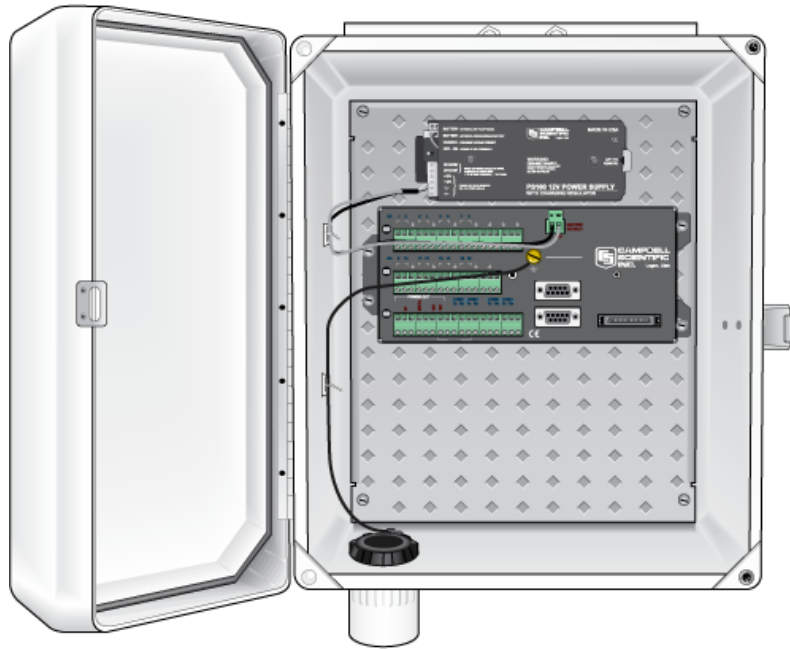

FIGURE 3-4. CR1000 and PS100 Mounted to an Enclosure Backplate
The datalogger includes hardware for mounting it to an enclosure backplate (see FIGURE 3-4). Either a BPALK or PS100 power supply is also typically housed in the enclosure if a CR800, CR850, or CR1000 is used. These power supplies also include hardware for mounting them to an enclosure backplate (see FIGURE 3-4).
3. An AC transformer or unregulated solar panel (Section 3.1-5) should be connected to the PS100 at all times. Connect the lead wires from the transformer or solar panel without regard to polarity to the two terminals labeled “CHG” (FIGURE 3-4); the red LED should light when voltage is present.